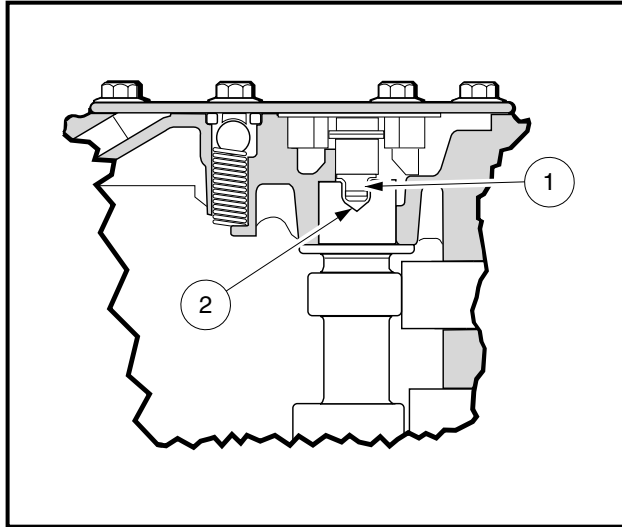

Figure 13-102 Proper Seating of Tang into Camshaft Slot
- When installing the camshaft, make sure that the tang (1) on the oil pump rotor seats in the slot (2) in end of the camshaft (Figure 13-102, Page 13-47). If the oil pump tang is not seated in the slot in the camshaft, serious engine damage will result.